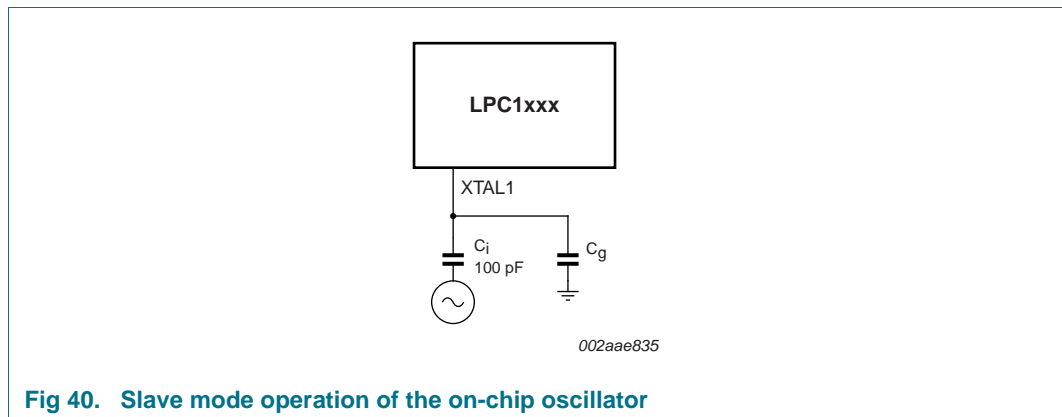

Fig 40. Slave mode operation of the on-chip oscillator
- In slave mode, couple the input clock signal with a capacitor of 100 pF (C_C in Figure 40), with an amplitude of at least 200 mV (RMS). The XTAL2 pin in this configuration can be left unconnected.
An external clock can be connected to RTCX1 if RTCX2 is left open. The recommended amplitude of the clock signal is $V_{i(\text{RMS})} = 100$ mV to 200 mV with a coupling capacitance of 5 pF to 10 pF. $V_{i(\text{RMS})}$ must be lower than 450 mV. See Figure 40 for a similar slave-mode set-up that uses the crystal oscillator.